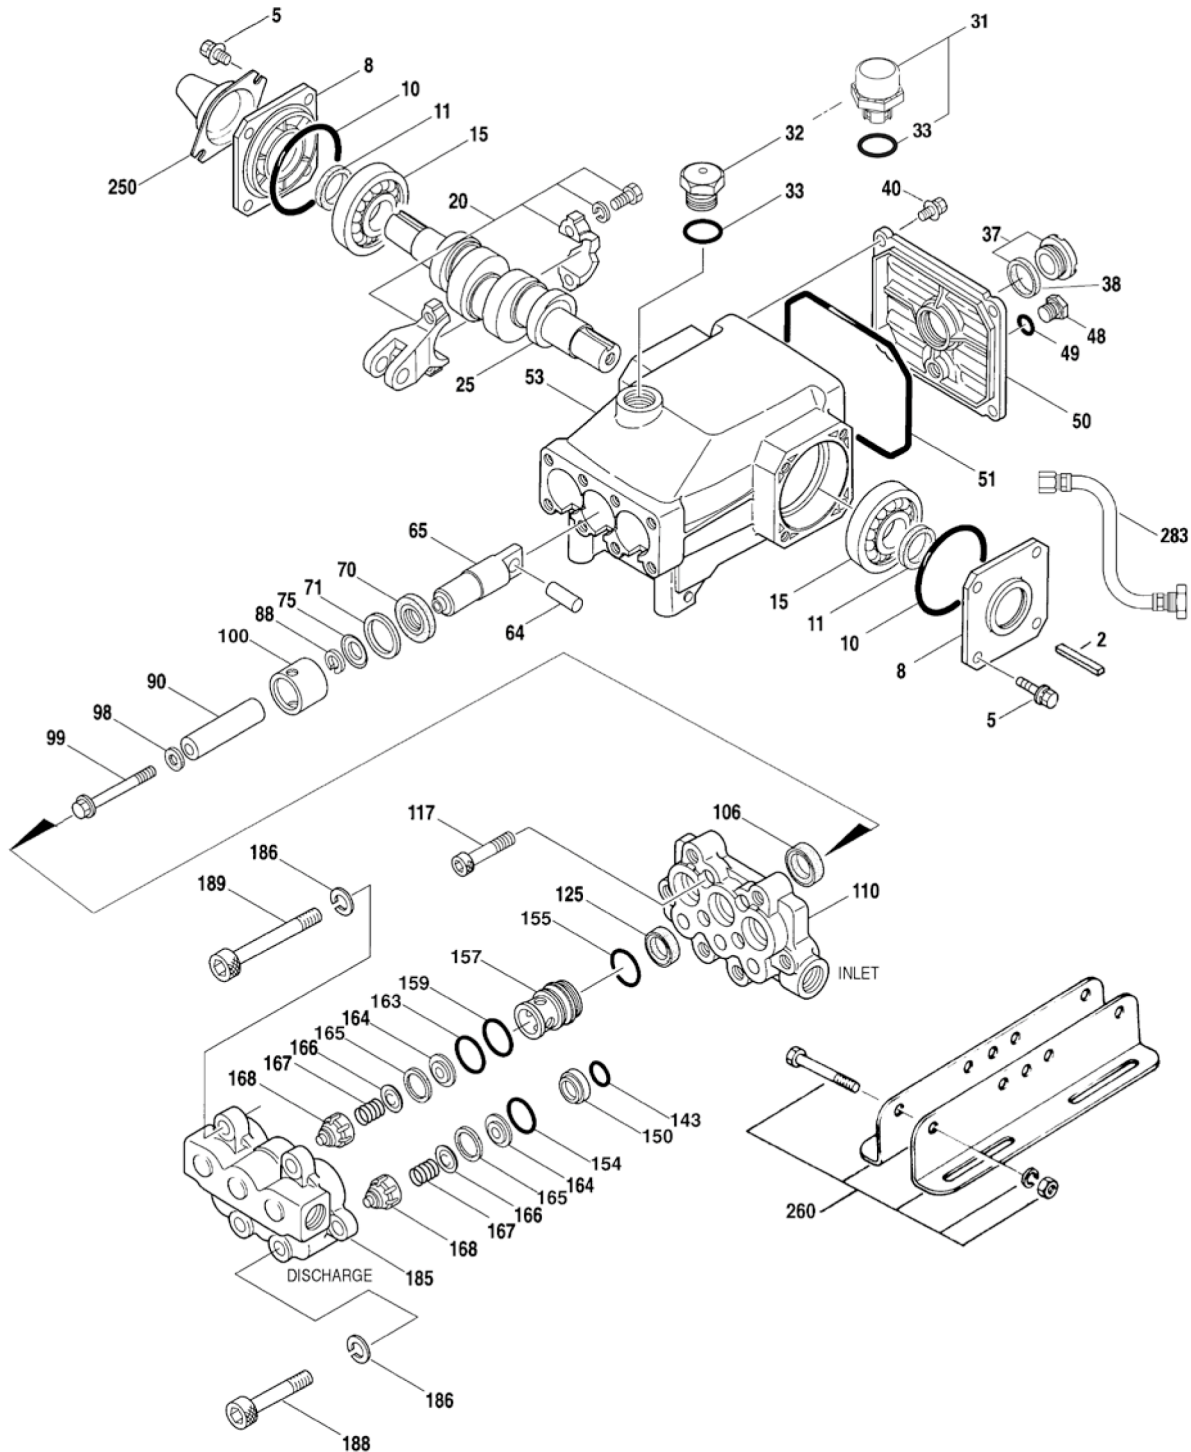

Figure 31: High Pressure Pump Exploded View
- "Figure 31: High Pressure Pump Exploded View" on page 120